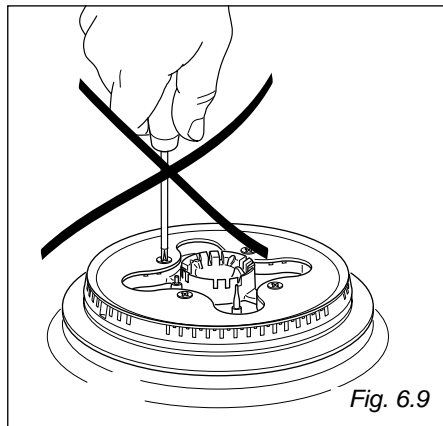

Fig. 6.9
**IMPORTANT:** NEVER unscrew the burner screws (fig. 6.9).